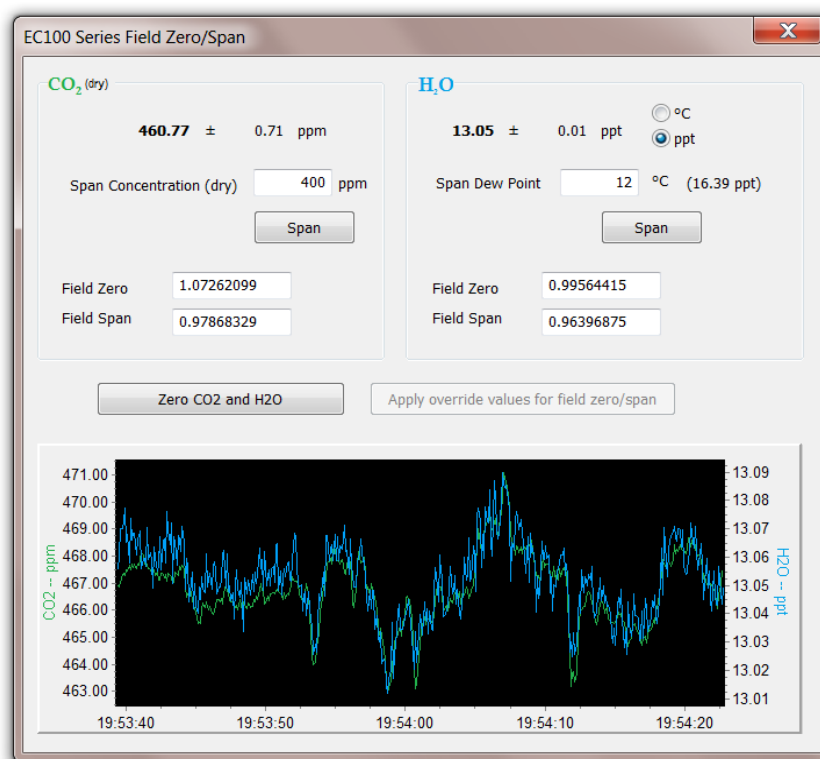

FIGURE 9-5. *ECMon* zero-and-span window
7. Launch *ECMon*, select the appropriate USB port, and click **Connect**. The main screen should now be reporting real-time CO₂ and H₂O concentrations. Click **Zero/Span**. A graph will appear in the lower half of the zero-and-span window showing measured CO₂ and H₂O concentrations (see FIGURE 9-5).